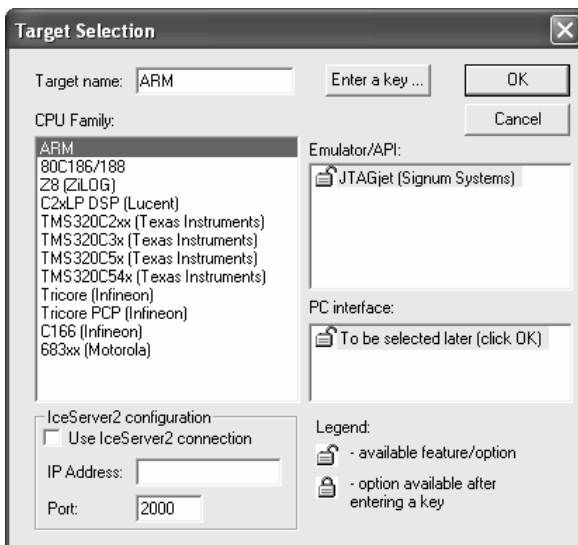

FIGURE 4 Selecting the emulator and its communication interface.
5. In the Target Selection dialog box, choose **ARM** as the CPU Family. In the Emulator/API section, highlight **JTAGjet (Signum Systems)**, as shown in Figure 4.